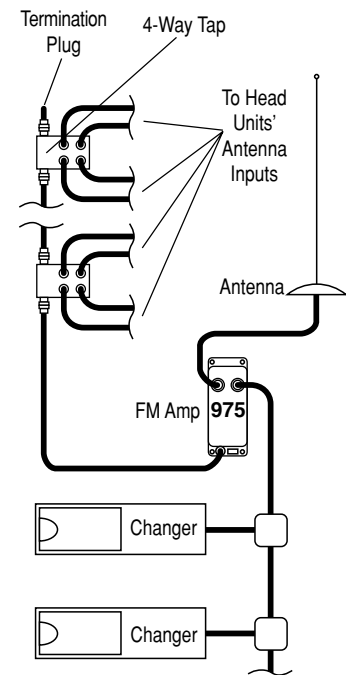

Figure 31.
- A. Unpack items 975 FM Amplifier and KIT17(s). Follow the enclosed instructions completely, making sure that the coax cable used to connect the 4 way taps is not kinked or bent during the hookup process. If you need additional instructions, please contact the factory and ask that we send you our part number 752-139.
- E. Make sure that you have inserted the proper F-59 Termination Plug in the last 4 way Tap Block's "Out" position (Figure 31).